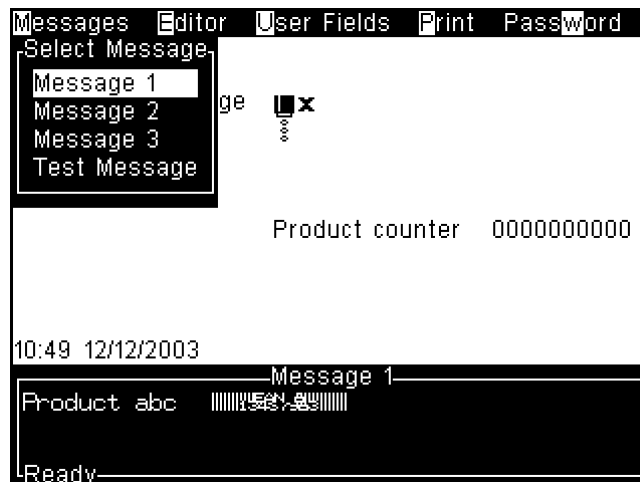

Figure 6-1: Select Message Menu
- 1 Press F2 to display the *Select Message* menu (Figure 6-1).